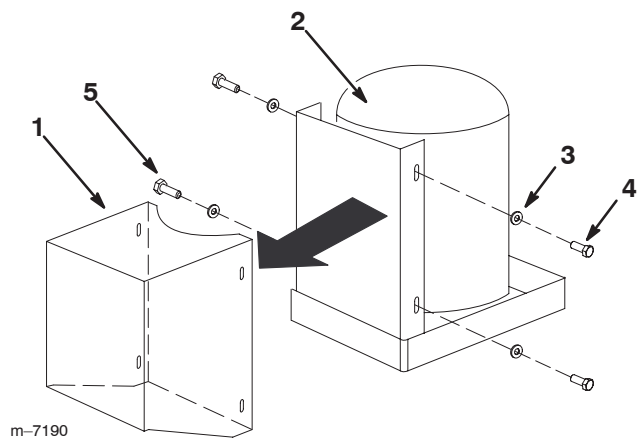

Figure 14
2. Remove the 4 bolts and flat washers that hold the cover to the tank/compressor assembly and remove the cover (Fig. 14).